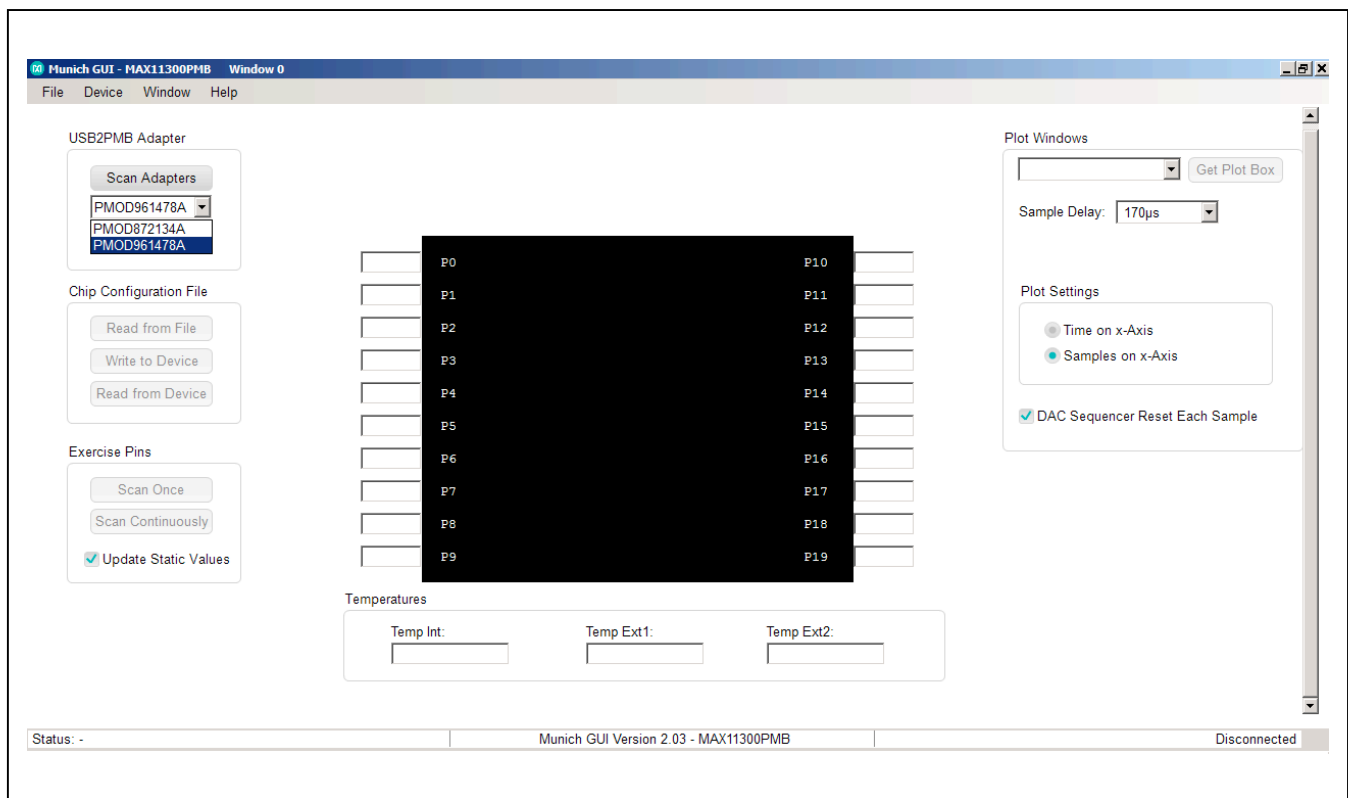

Figure 5. Munich GUI
- 2) Start the Munich board software and select the tab sheet that corresponds to the companion device as shown in Figure 5, the Munich GUI.
For instance, Figure 5 depicts the scanning and available Munich devices connected. The software has identified two devices: